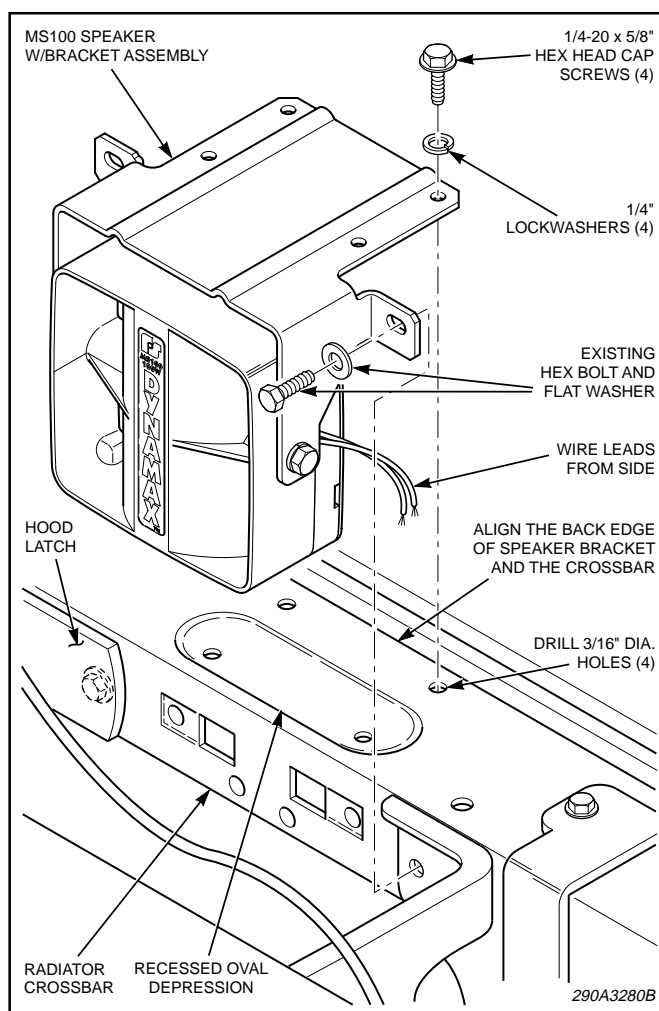

Figure 3.
4. See figure 3. Remove and retain the screw on the right side of the hood latch mechanism, and the screw which secures the vertical crossbrace at the right of the hood latch. Locate the oval recess on the top of the radiator crossbar, to the right (driver's side) of the hood latch. Position the speaker/bracket assembly centered over the oval recess and align the two outer mounting ear holes with the previously removed screws' holes. Install the two screws and tighten securely.
7. To complete the mounting, secure the speaker/bracket in position using the 1/4" x 5/8" thread-forming screws and split lockwashers. See figure 3.